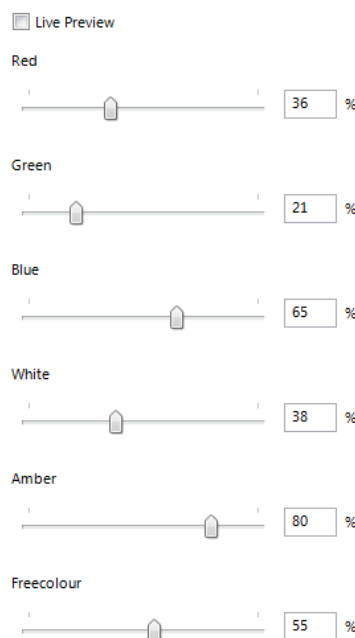

Figure 200: Selecting a colour for colour type RGBWAF.
- **RGBWAF** (see Figure 200): For this type the resulting colour is composed by selecting a percentage value of 0% to 100% for the intensity of up to six predefined channels (red, green, blue, white, amber and free colour). Note, that a specific ballasts supporting RGBWAF might only support a subset of those six channels (e.g. only red, green, blue).